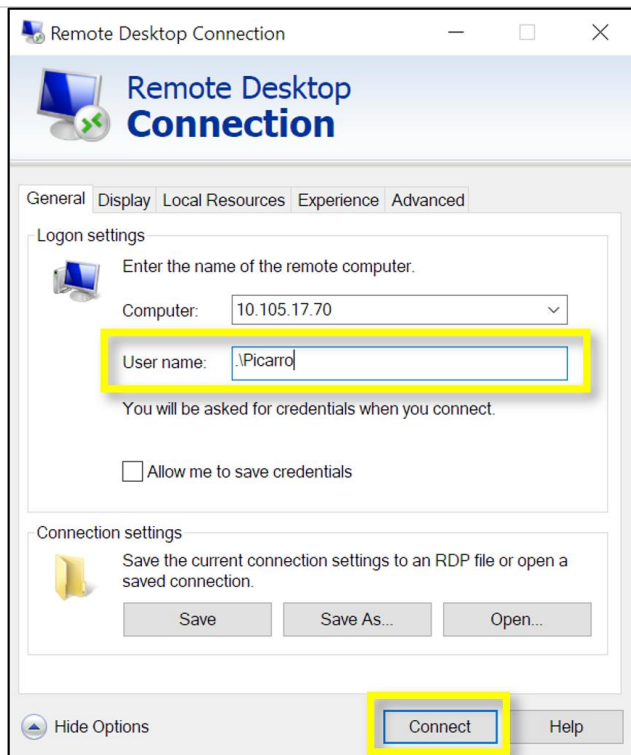

Figure 263. Show Options Screen.
STEP 5 | Enter **.\Picarro** in the **User name** field, then click **Connect (Figure 263)**.